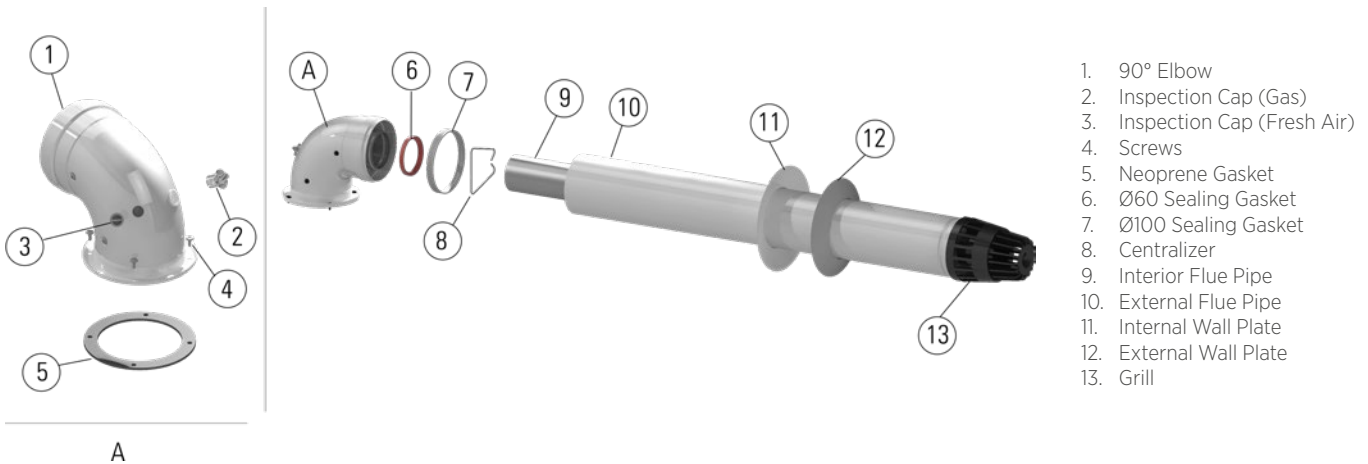
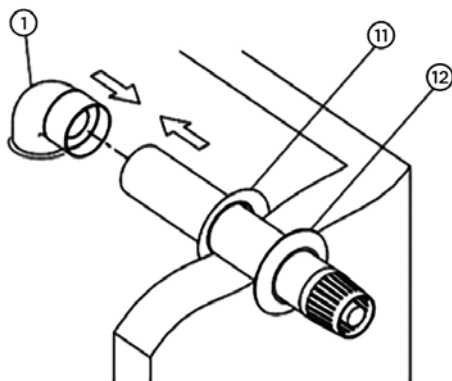

Figure 11 Hermetic combi homocentric flue set.
Figure 12 Hermetic combi homocentric flue wall output
- Fix the flange under the elbow piece (1) by using the Flange Bolt (5) via Flange Connection Screws (4) to holes on the combi.
- 2 x Ø60 Sealing Gasket (6) are placed into internal pipe slots at both ends of the 90° elbow.
- Place the Ø100 Sealing Gasket (12) on the 90° elbow contacting with the restrictive set.
11-12. for grouping the flue output terminal. After placing the flue output terminal through exterior of wall and the previously made hole, fix the Internal Wall Plate (11) into the flue terminal. Place, 90° flue elbow of your combi coupled tightly to the flue output terminal (Figure 12). Then fit the outer and inner wall flanges (Fig.11_11-12) on the terminal pipe (Fig.12). Finally, push the Internal Wall Plate to the wall surface and ensure flue and wall impermeability.